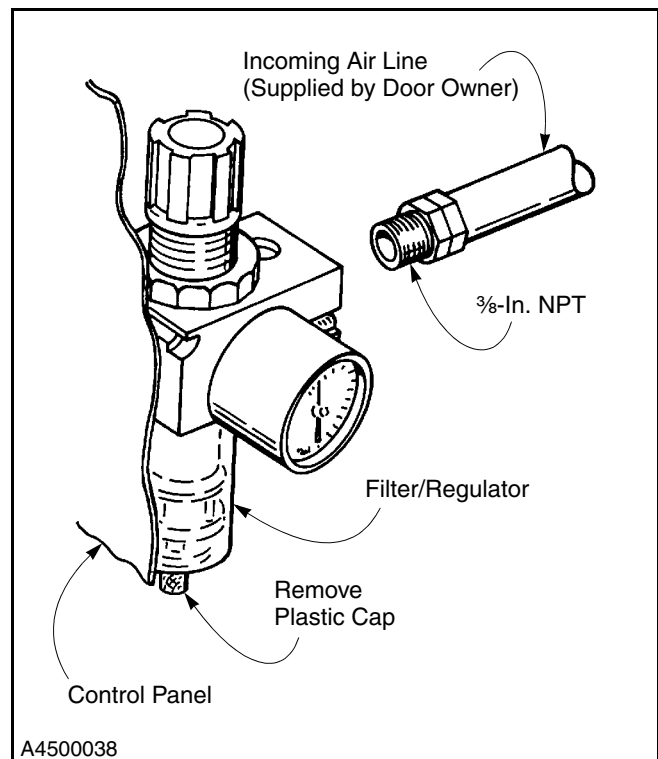

Figure 34
1. Connect the line from the air supply to the filter/regulator mounted on the right side of the control panel. (See Figure 34.)
2. Remove the plastic cap covering the automatic water drain. (See Figure 34.)